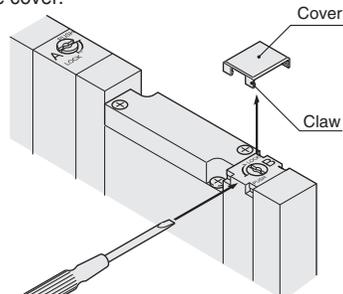

Figure 1 ※ Illustration shows the F10 series.
1. As shown in Fig.1, insert the flatblade edge of a small screwdriver into the gap between the valve and the cover, and then peel it off and remove the cover.
Caution: As shown in Fig.1, make sure to insert a small screwdriver from the side of the valve cover. The cover claw may be damaged when the cover is removed from the direction of the valve stem. Never remove the cover for any reason other than valve function switching.
Caution: 1. When using it as a double solenoid valve, do not attach the cover that was removed in Fig. 1.